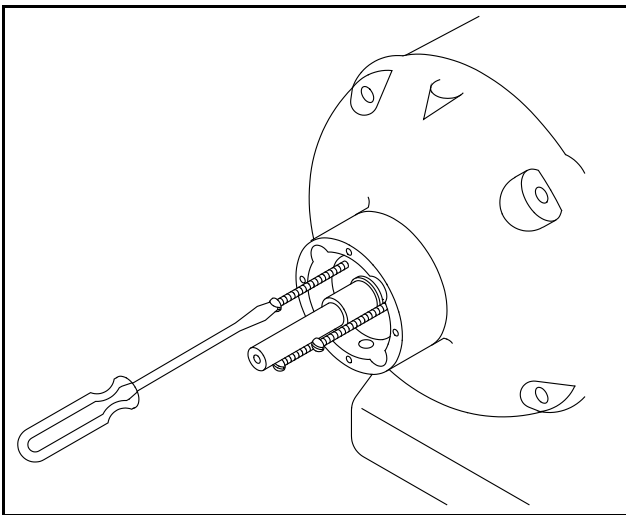

Figure 11. Removing a stuck clutch
- 7.1.3 Thread the three 6-40x1" screws into the holes in the clutch hub. Tightening these screws in an alternating pattern will back out the clutch hub. See Figure 11.